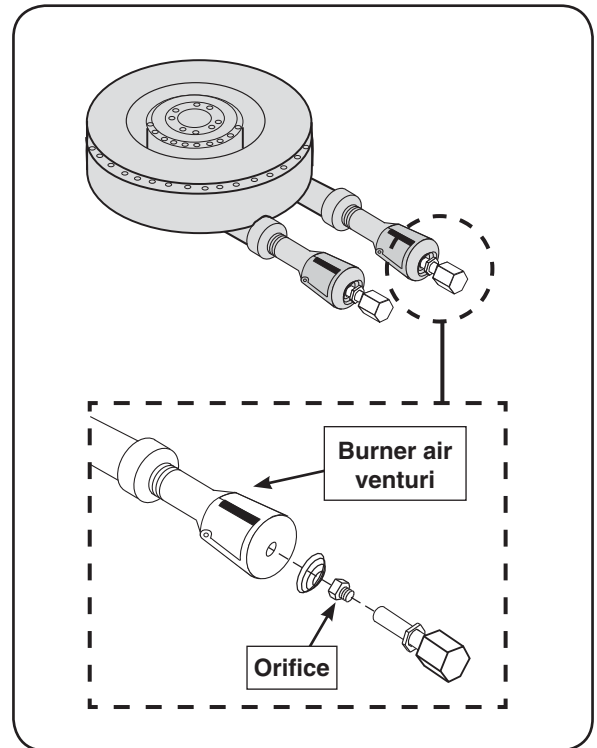

Fig. 31-1 Burner air shutter / orifice orientation
4. Install the air shutter spring and the air shutter over the orifice holder fitting, between the burner and the heat shield, in the order and position shown in Fig. 31-1.